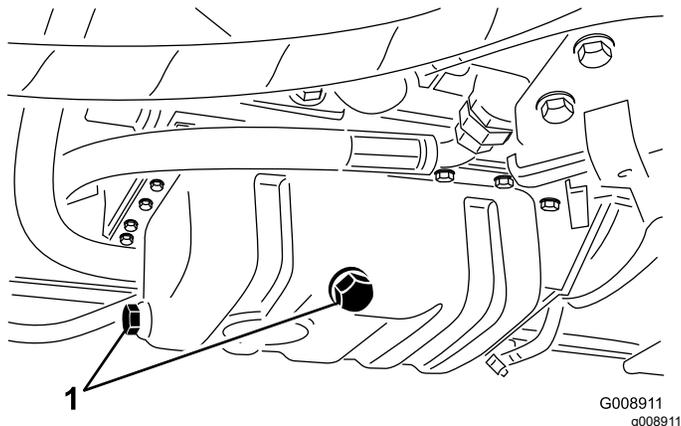

Figure 65
3. Remove either drain plug (Figure 65) and let the oil flow into a drain pan; when the oil stops flowing, install the drain plug.